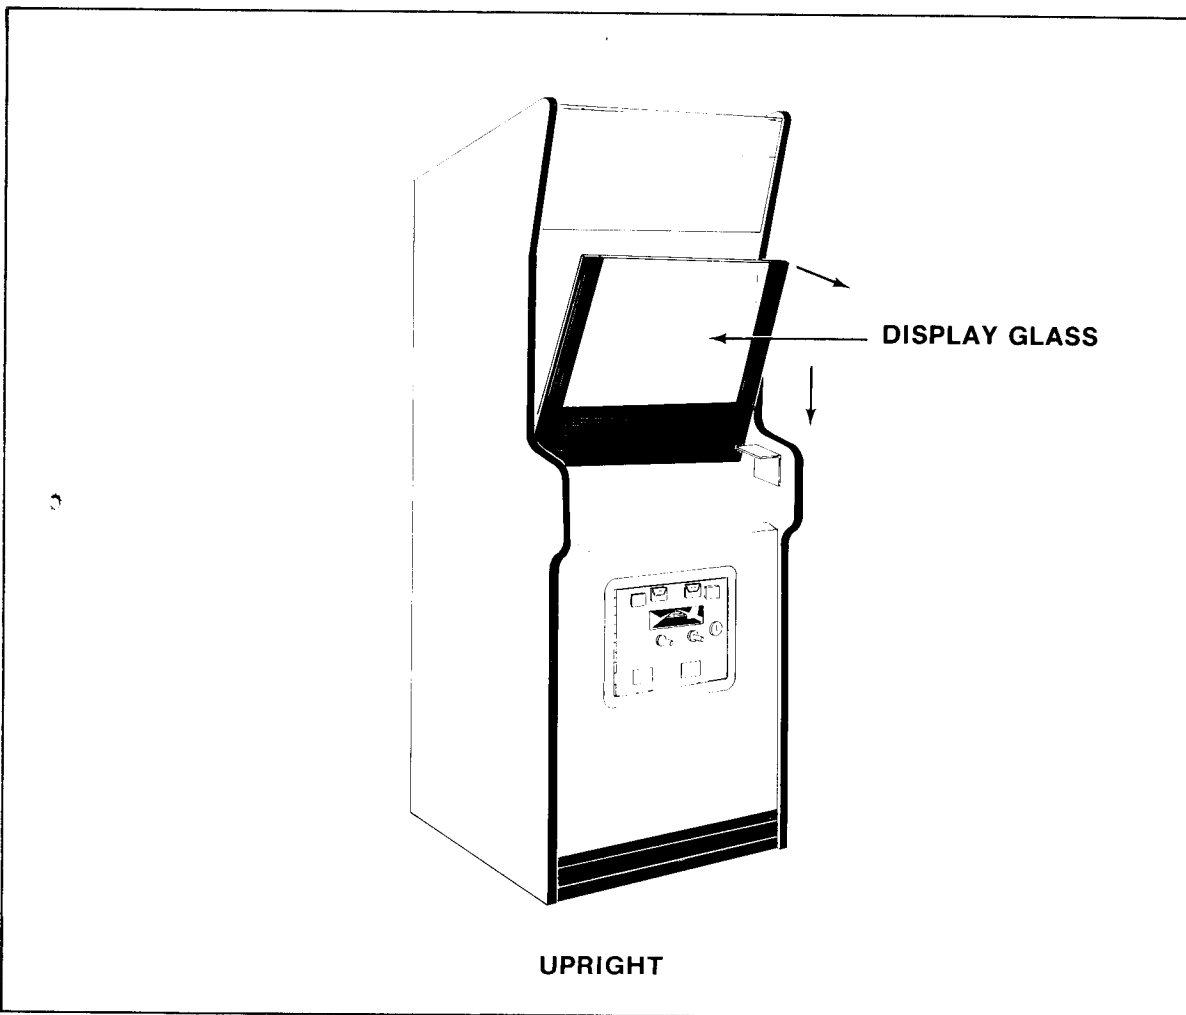

FIGURE 22
- b. Grasp the main-display-glass in the bottom center, lift up slightly and pull it toward you about an inch, let it down just far enough so you can get hold of its top edge with your other hand and lift it out of the game. See Figure 22.